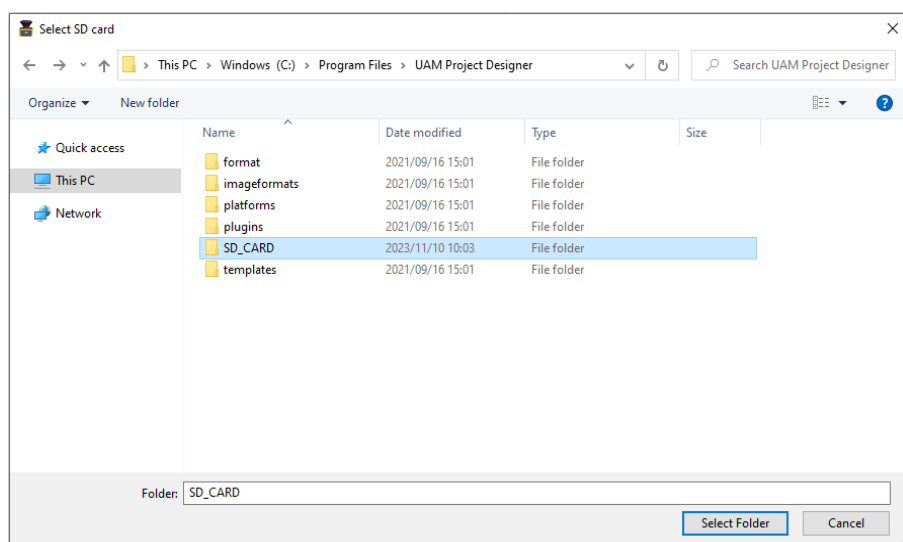

Figure 7-63 SD Card selection screen
- f) Verify that SD card is inserted into the PC slot and click “Save” button. Save dialog box as shown in Figure 7-63 will appear.